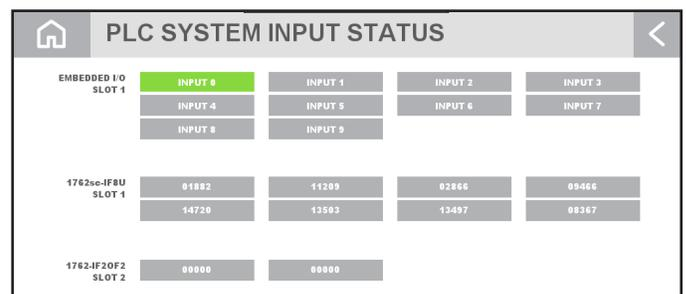

Figure 12.2: Input Status screen
- Embedded digital IO - shows the status of every PLC input [Figure 12.2].